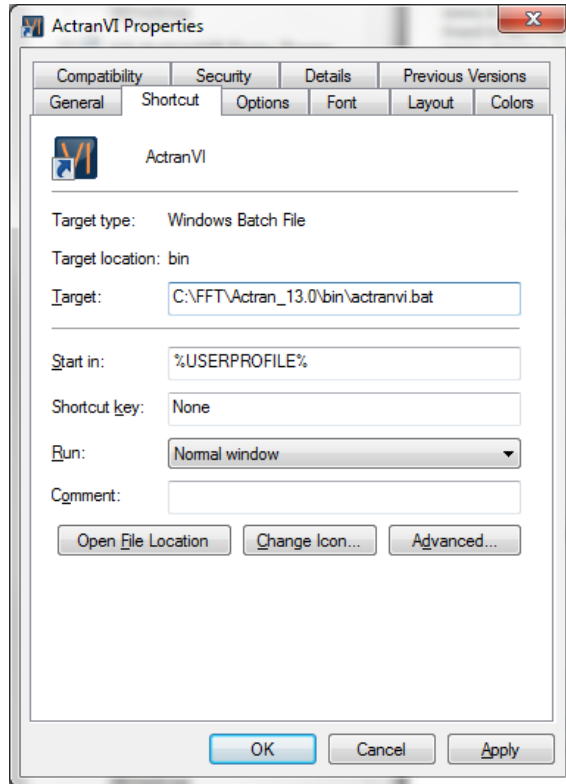

Figure 8.15: ACTRANVI "Start in" directory in Windows
- **Overwrite session:** when this box is checked, the automatically saved session file of an ACTRANVI application overwrites the previous session file. This session file is stored in the directory from which ACTRANVI is launched. On Windows platforms, an ACTRANVI application launched via the Start menu is launched in its "Start in" directory. This "Start in" directory can be found in the Properties of the ACTRANVI application link in the Windows Start menu, shown in Figure 8.15.